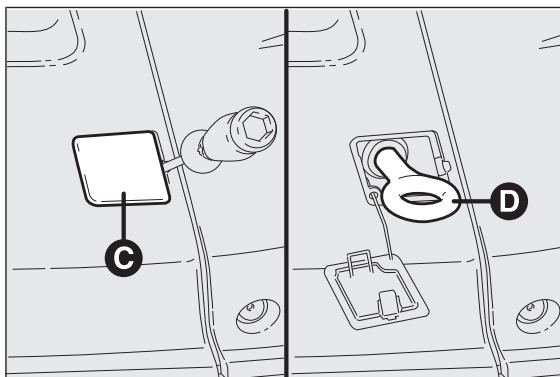

fig. 223
- ❑ take the screwdriver provided from the box and prise up at the point shown to raise the cap C fig. 223;
- ❑ take the tow ring D from the box and screw it onto the threaded pin fig. 223.